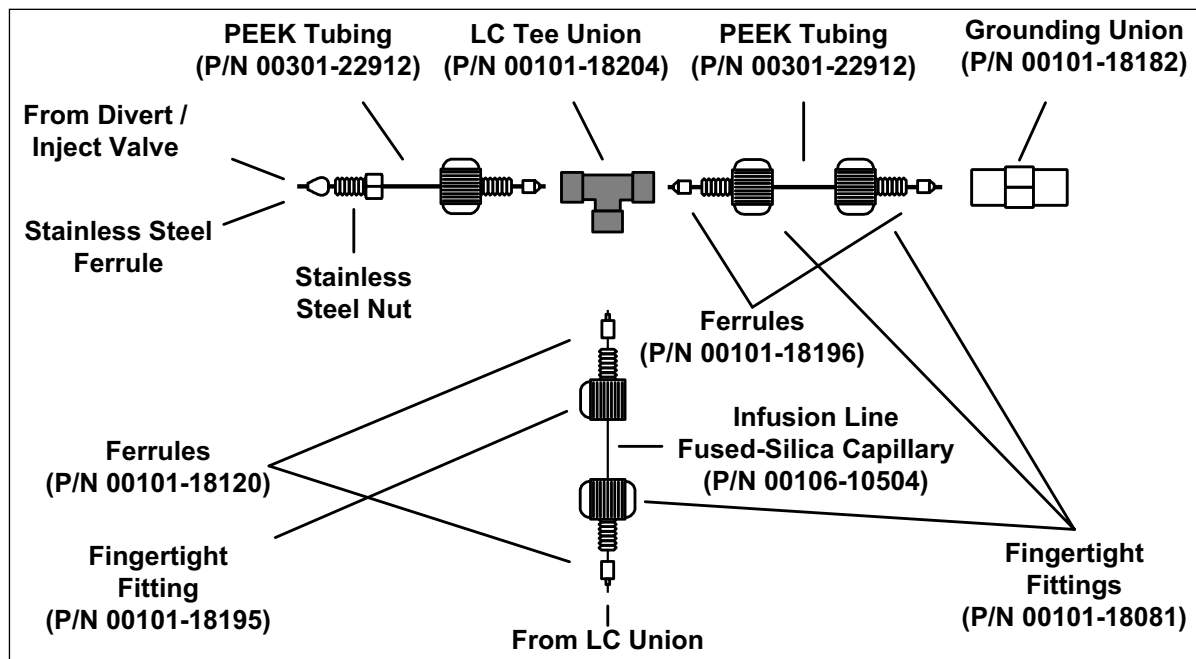

Figure 4-1. ESI/MS plumbing connections for the LC Tee union
6. Connect the fused-silica infusion line from the (black) LC union to the (black) LC Tee union, as follows. See Figure 4-1.
- b. Connect the other end of the PEEK tubing with a (brown) fingertight fitting and a (brown) ferrule to the free end of the LC Tee union. (See Figure 4-1.)